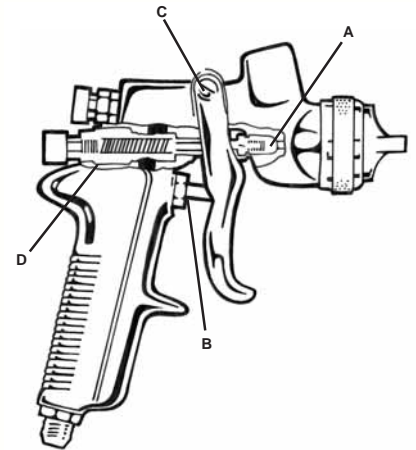

Figure 22 - Lubrication Points
After cleaning a spray gun in a gun cleaner, be sure to lubricate as indicated in Figure 22.
39. What parts of the gun require lubrication? (Figure 22)